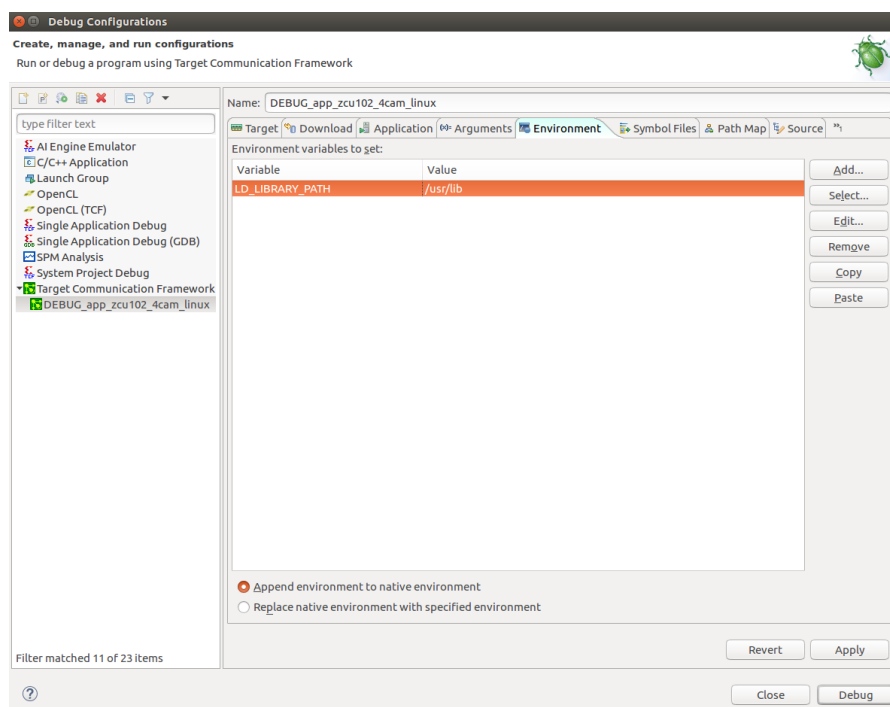

Figure 42: Vitis Workspace – Environment Tab
10. Enter **Project Name**, **Local File Path** and **Remote File Path** (see Figure 42)